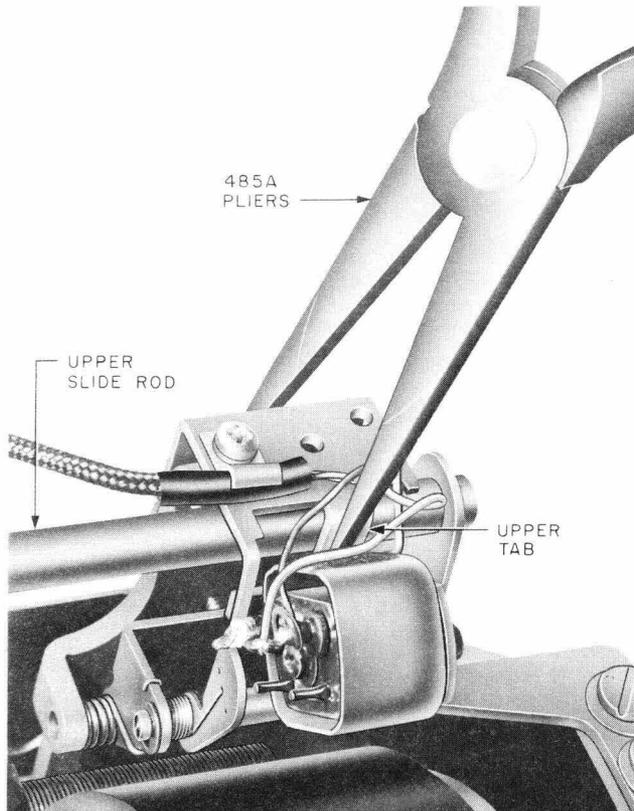

Fig. 16—Method of Adjusting Upper Tab for Minimum Clearance
- (1) To reduce clearance, using the 485A pliers as shown in Fig. 16, bend the tab toward the upper slide rod.
- (2) To increase the clearance, bend the tab away from the upper slide rod. To do this, it is necessary to remove the brass bracket.